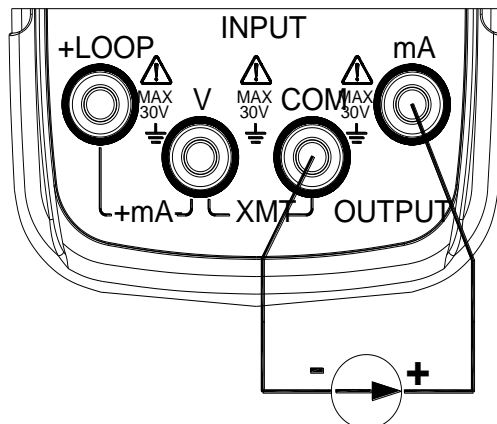

Figure 5.3 DC current measurement input
- Insert one end of the test lead to the mA jack (INPUT) of the device and connect the other end with the input of the device as shown in Figure 5.3.
- Press the output/input toggle button (3) so that the **INPUT** symbol appears on the display. The device is now in an input state.
- Press the mA%/V unit select button (4) so the device displays mA or mA%; where 0% is 4mA and 100% is 20mA.